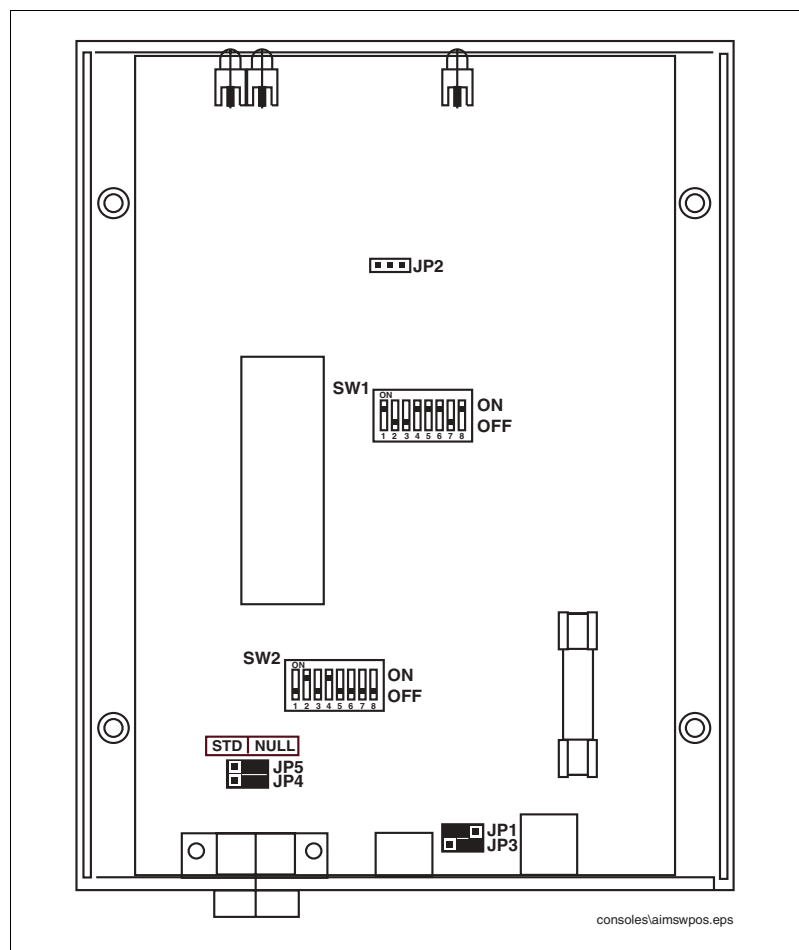

Figure 1. DIP switch /jumper locations in the MT-DAC unit
3. Reference Figure 1 to locate dip switches SW1, SW2, and jumpers JP1- 5.